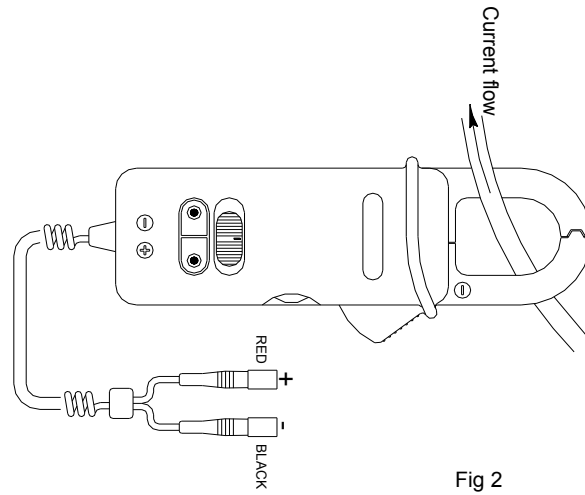

Fig 2
4. When measuring d.c. currents, you will get a positive measurement when the current in the conductor enclosed by the jaws is flowing upwards, as shown in Fig.2.